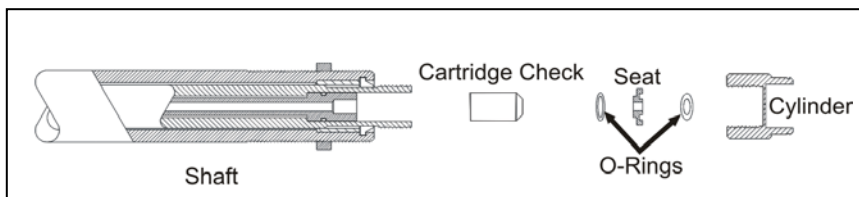

Figure 6
- a) Replace the cartridge check (see Figure 6).